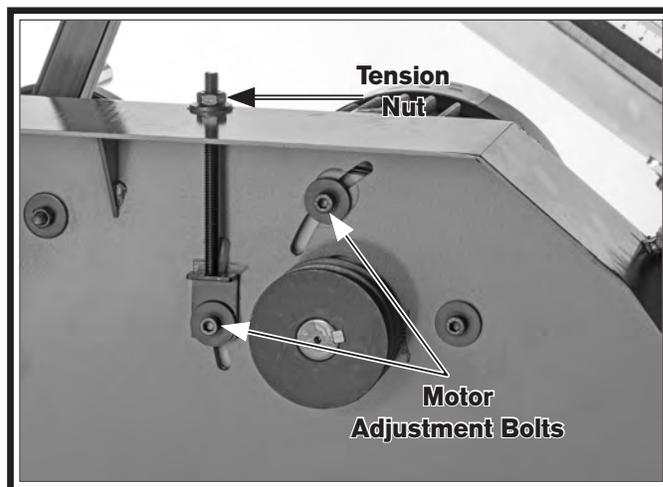

Figure 89. Location of V-belt tension controls (wheel removed for clarity).
5. Loosen motor adjustment bolts (see **Figure 89**).
6. Adjust belt tension by turning tension nut (see **Figure 89**). Turn nut clockwise to increase tension; turn nut counterclockwise to decrease tension.